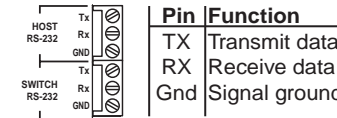

Figure 2-7 — RS-232 connector
2. **Host RS-232 port** — If desired, connect a host computer or control system to this 3-pole, 3.5 mm, RS-232 connector (figure 2-7).
3. **Switcher RS-232 port** — If desired, connect a cable between this 3-pole, 3.5 mm, RS-232 connector and a matrix switcher (figure 2-7).